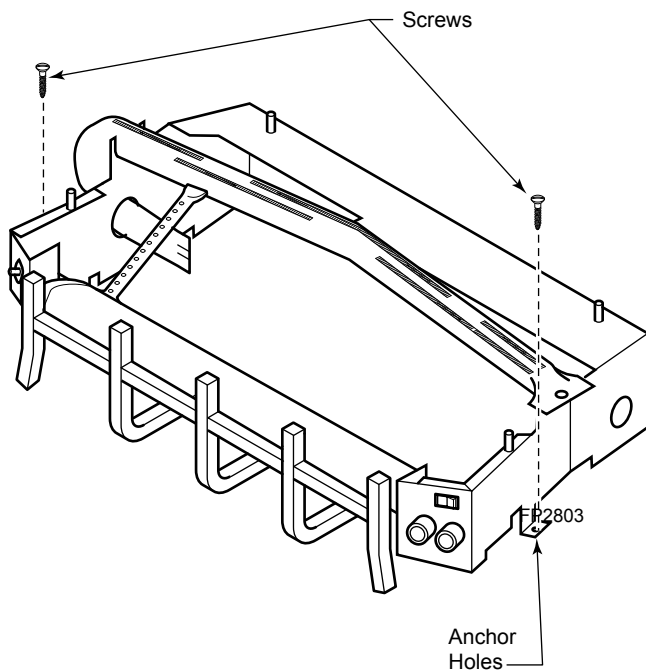

Figure 13 - Secure Heater to Floor of Fireplace or Firebox
2. Anchor holes are located on the right and left sides of the unit. After centering the grate correctly, mark the hole positions on the fireplace/firebox floor. Drill two (2) 1/2"x" diameter holes approximately 1 1/2"x" deep.
3. Anchor the grate to the fireplace/firebox floor using the screws provided. *Figure 13*